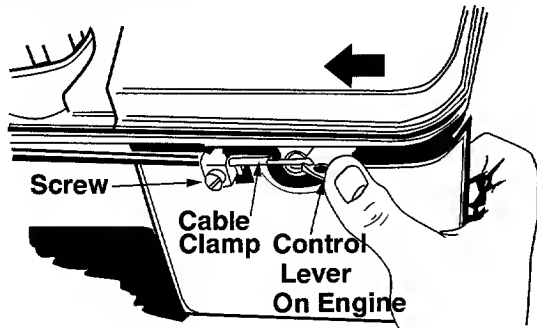

Figure 11.
1. Remove the screw shown in figure 11. Remove the cable clamp from the cable.